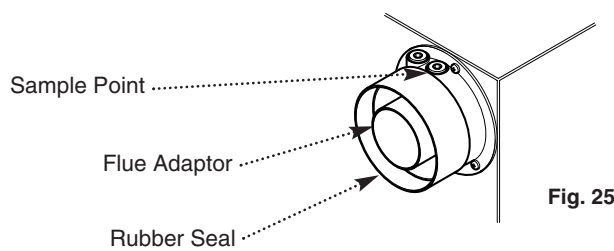

Fig. 25
6. Take the rubber seal and position it on the boiler adaptor. Using the flue duct clamp secure the flue duct to the adaptor (Fig. 25).